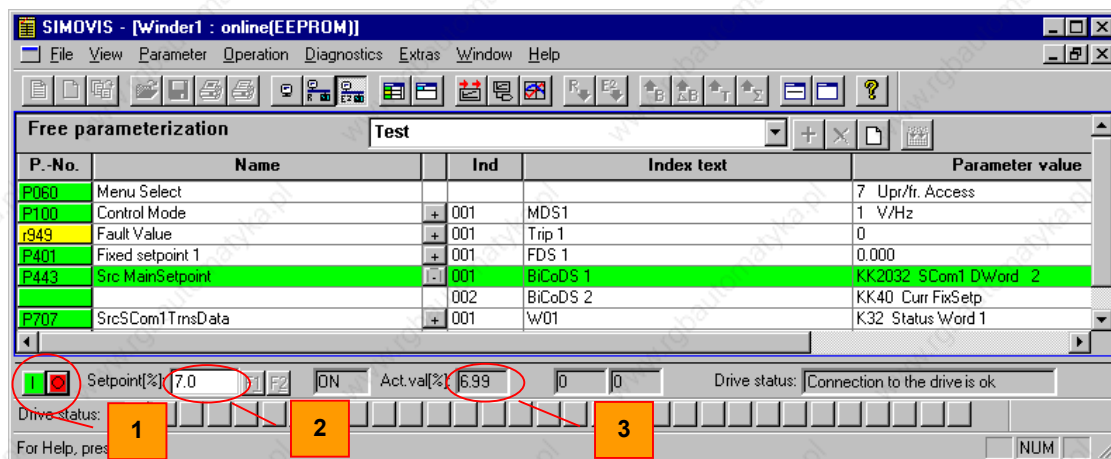

Fig. 5-28 Operating bar
- ◆ ON/OFF (Fig. 5-28 [1])
- ◆ Setpoint setting and actual value display (Fig. 5-28 [2] [3])